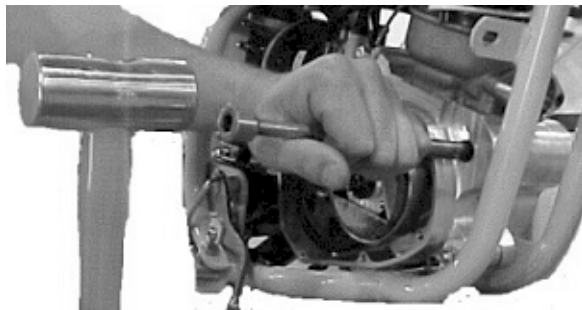

Figure 30
9. Heat engine case around area of impeller lightly with a small propane torch. Using a 3/8" diameter x 8" long steel rod, tap impeller assembly out of engine as shown in figure 30.